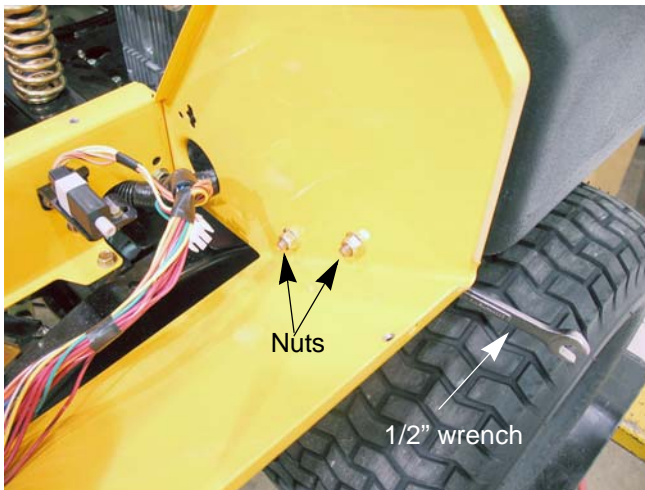

Figure 4.12
15. Remove the nuts and bolts that hold the utility bin bracket to the control console using a pair of 1/2" wrenches. See Figure 4.12.